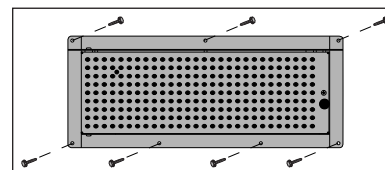

Figure 11: Secure Display in Sign Structure
- Drill through the front flanges of the cabinet to attach the display to the base structure using appropriate hardware for site conditions. Refer to **Figure 11**. Actual site demands will dictate variances and appropriate mounting methods.